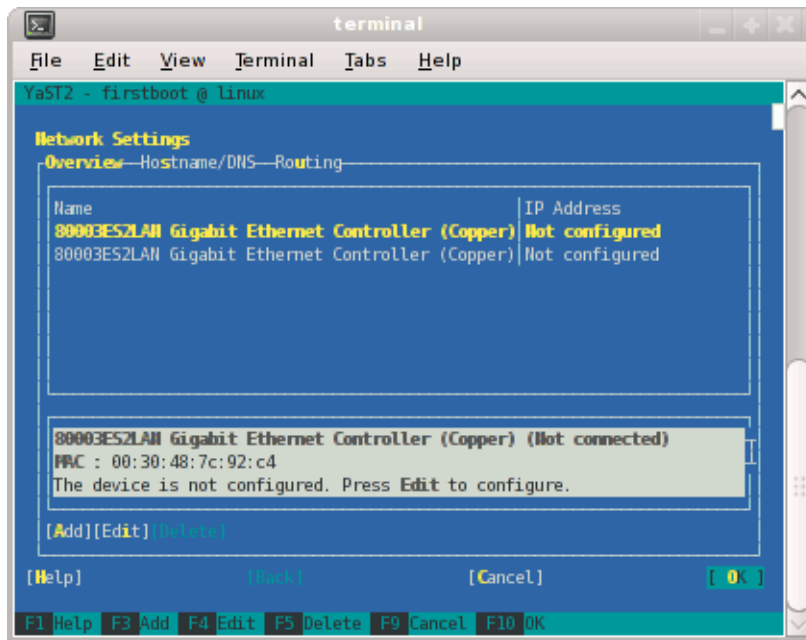

Figure 1-9 Network Settings Screen
7. From the **Network Settings** screen, as shown in Figure 1-9 on page 16, configure the first card under **Name** to establish the public network (sometimes called the house network) connection to your SGI Altix UV system. To do this, highlight the first card and select **Edit**.
Note: In SLES11, this screen is also where we will come back to in order to set up things like the default route and DNS. You can see all of those menu choices just to the right of **Overview** in Figure 1-9 on page 16.